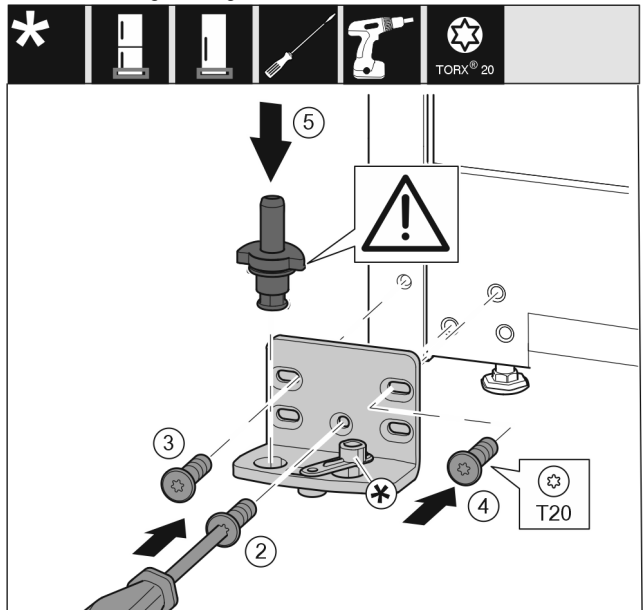

Fig. 14
- ▶ Place the bearing bracket on the other side and screw it in using the T20 screwdriver. Start with screw 2 at the bottom in the middle. *Fig. 14 (2)*
- ▶ Screw in screws 3 and 4. *Fig. 14 (3,4)*
- ▶ Insert the bearing pin completely. Make sure that the latching lug is pointing to the rear. *Fig. 14 (5)*